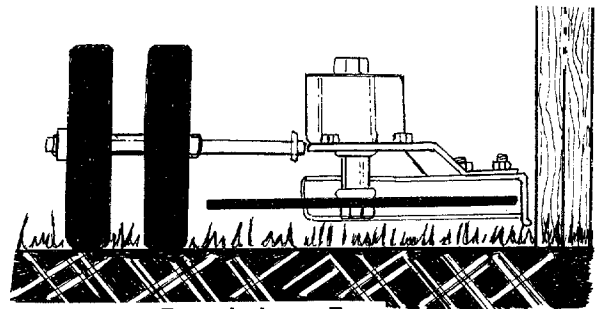

FIGURE 20
4. To operate the unit as a trimmer, move the adjustment lever and rotate the cutting blade 90°. See figure 20. Move the front wheels all the way to the right, as described in the Control section.